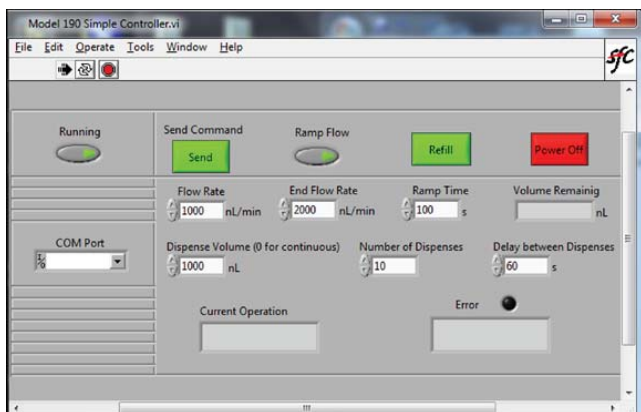

Fig. 23—Shows how to send a ramp command to the pump.
3. To return to the non-ramping mode, simply turn off the Ramp Flow light. For example the screen shown in Fig. 23 starts the pumping at 1000 nL/min. and increase the flow rate by 10 nL/min. every second until after 100s the pump will be pumping at 2000nL/min. Then the pump continues to pump at 2000nL/min. until you command it to do otherwise or until the stroke volume has been exhausted.